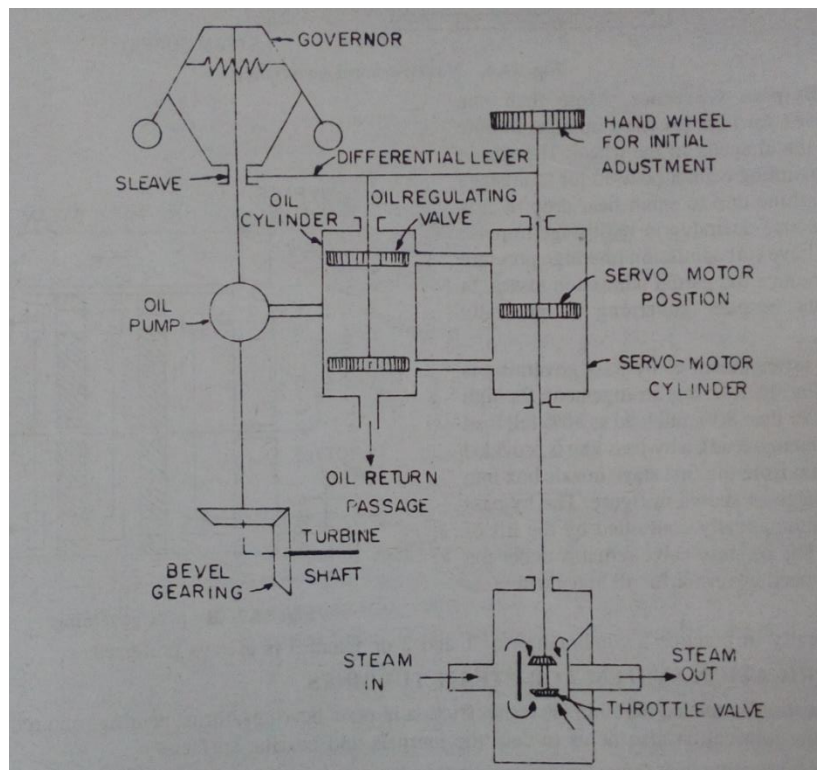

Figure 10 Throttle Governing
- ❖ The throttling is achieved with the help of double heat balanced valve which is operated by a centrifugal governor through the servo-mechanism as shown in figure 10